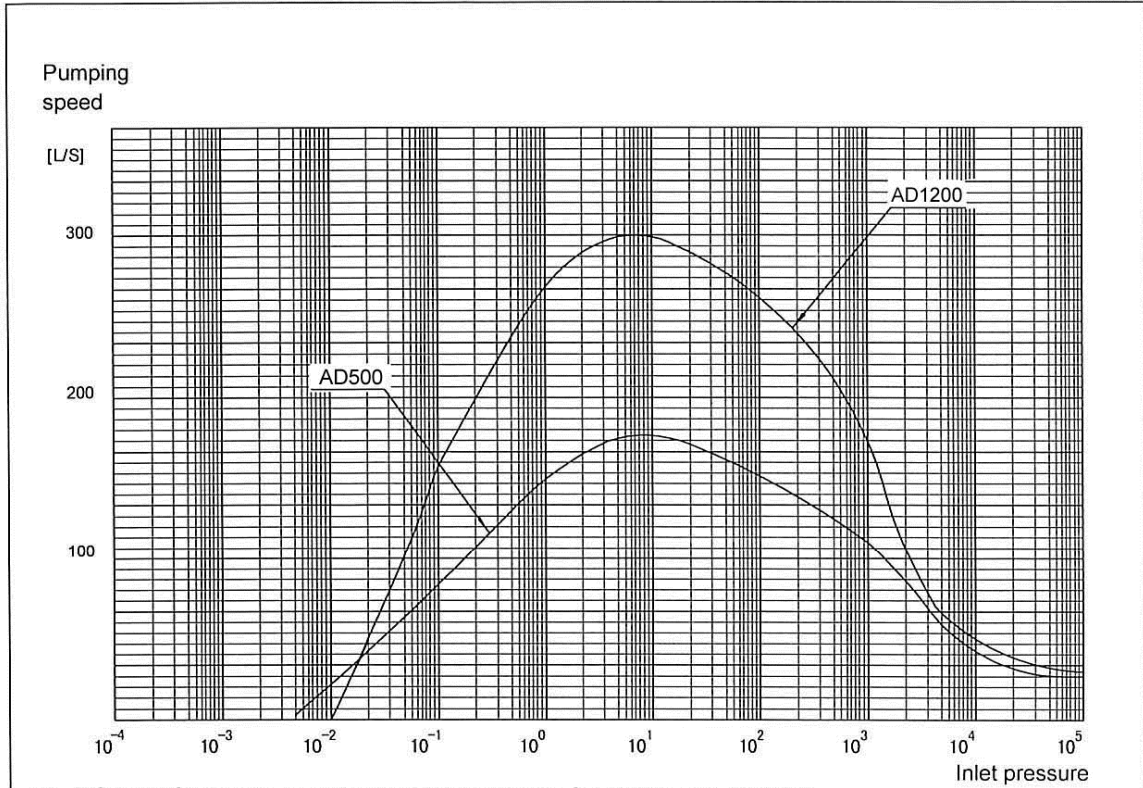

Fig. 5 Curve of pumping speed versus inlet pressure for AD500 and AD1200
- Figure 5: Capacity curve for both AD500 and AD1200.